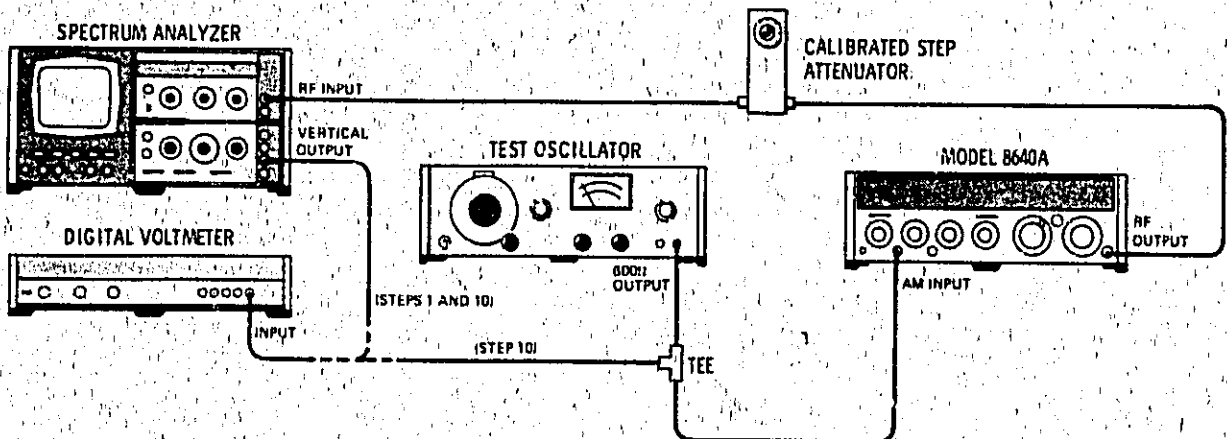

Figure 4-12. AM Sensitivity and Accuracy Test Setup
1. Connect equipment as shown in Figure 4-12 after setting Signal Generator's controls as follows: